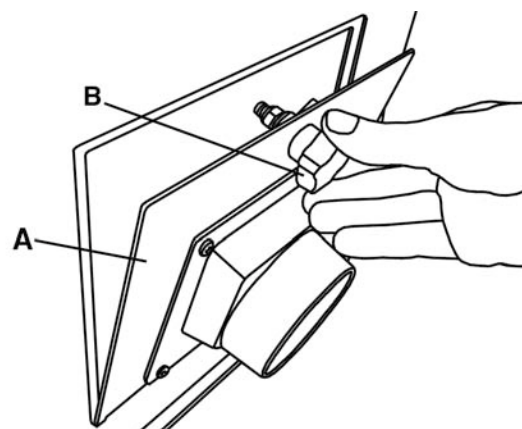

FIGURE 31
Keep the inside of the cabinet clear of saw dust and wood chips. Open the dust chute access door (A) Fig.31 by turning the lock knob (B) a 1/4 turn. With the table saw unplugged, vacuum out the inside of the cabinet or blow out the inside with an air hose.